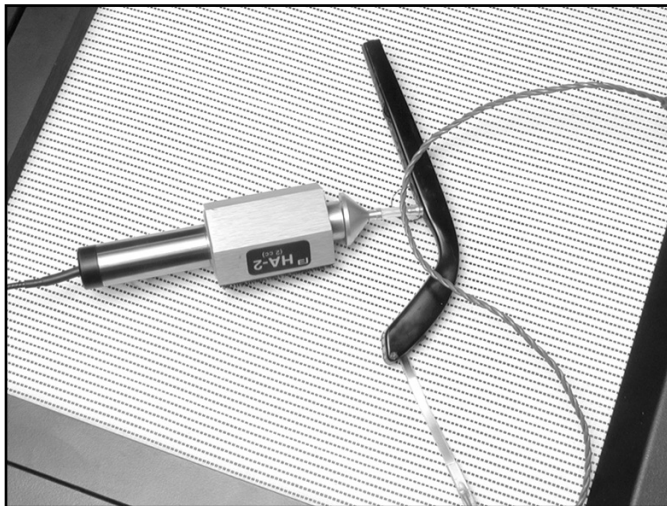

Figure 3.3.5B—Body Aid in test chamber
3. Place the aid in the test chamber with its microphone opening as close to the reference point as possible. See Figure 3.3.5B.